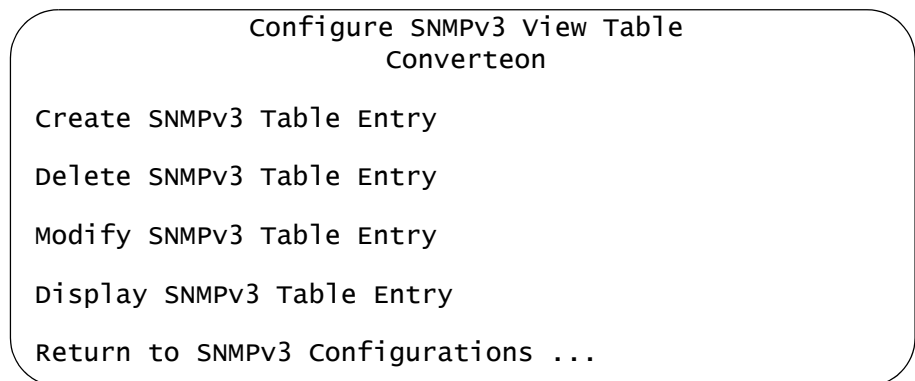

Figure 113. Configure SNMPv3 View Table Menu
- ❑ From the Main Menu, select **Configuration** -> **System Configuration** -> **SNMPv3 Configurations** -> **Configure SNMPv3 View Table**. The Configure SNMPv3 View Table menu is shown in Figure 113.